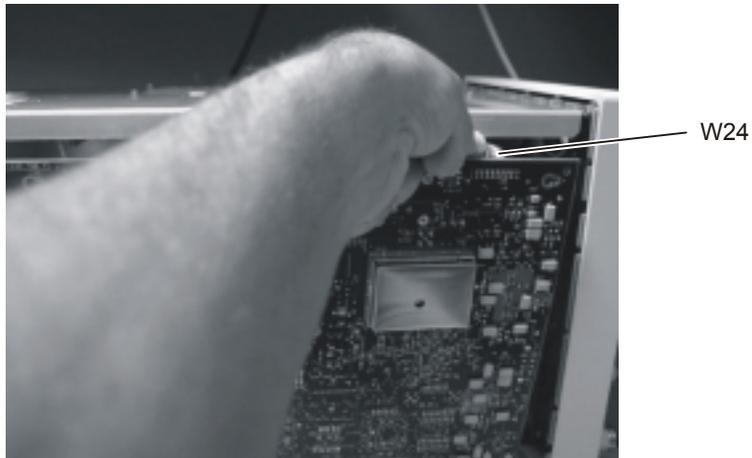
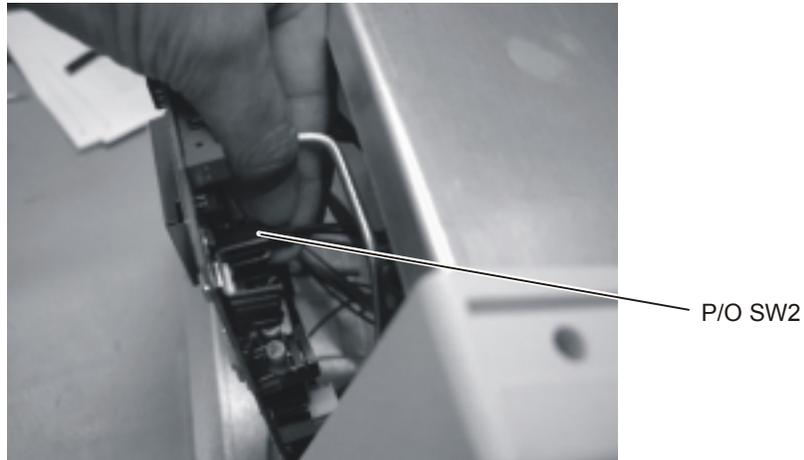

Figure 4-51. Removing the W24 Ribbon Cable from P24 SRC_SEL
Figure 4-52. Removing the SW2 Cable from P19 Connector
- 5 Pull the board out a few inches, then disconnect the W24 ribbon cable and the cable from the SW2 Transfer Switch, as shown in Figure 4-51 and Figure 4-52.